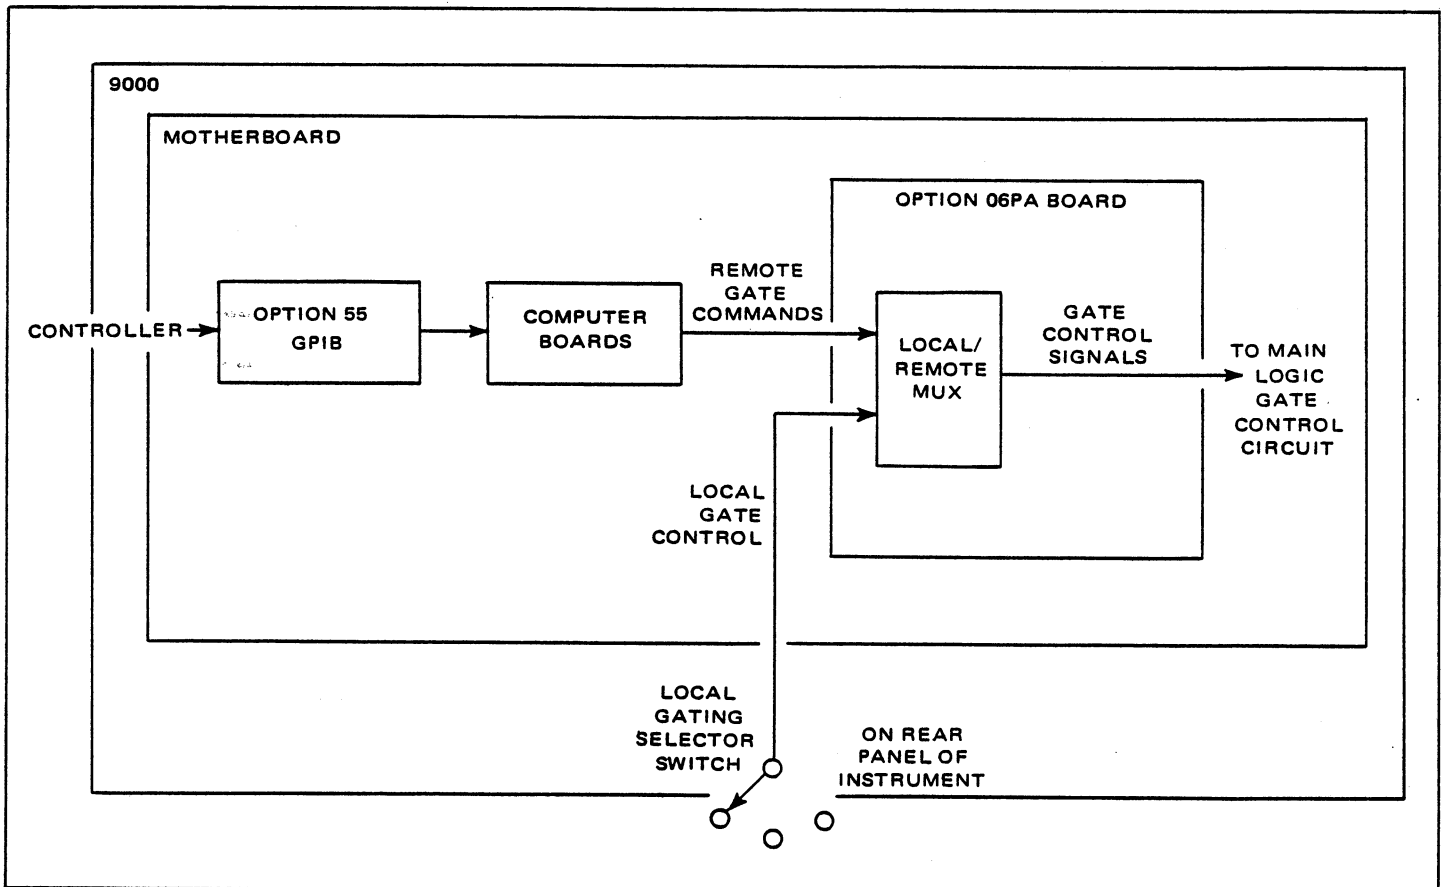

Figure 3.7 - Option 06PA Simplified Block Diagram
3.2.11.1 The Option 06PA feature of the Series 9000A Counter provides the user with remote control of the External Gate Control features when Option 55 has been installed. The primary difference between the standard model and 06PA is that the gate control may be selected by the controller. A simplified block diagram of the 06PA option is shown in Figure 3.7. The controller transmits commands